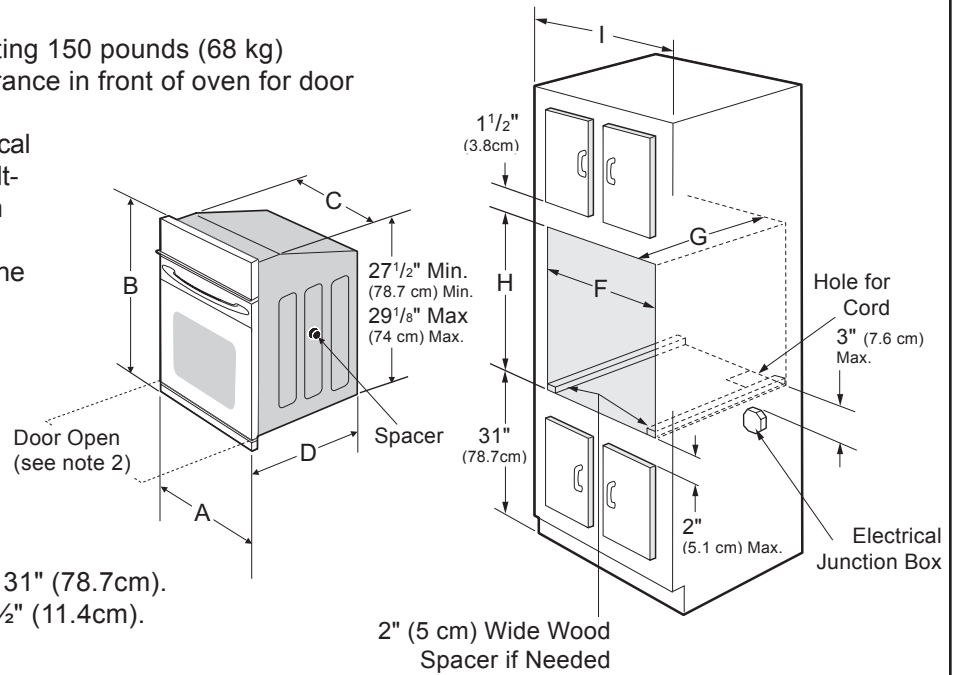

Figure 1
Refer to figure 1 for the dimensions applicable to your appliance, and the space necessary to receive the oven. The oven support surface may be solid plywood or similar material, however the surface must be level from side to side and from front to rear.
Oven height can be adjusted with 2" (5cm) wide wood shims when needed to fit into an existing cabinet cutout opening, when cutout height exceeds 27⁵/₈" (70.2 cm) (see Figure 1). Place shims of appropriate height beneath the oven side rails.
2. These appliances should be connected to the fused disconnect (or circuit breaker) box through flexible armored or nonmetallic sheathed cable. The flexible armored cable extending from the appliance should be connected directly to the junction box. The junction box should be located as shown in Figure 1 and with as much slack as possible remaining in the cable between the box and the appliance, so it can be moved if servicing is ever necessary.